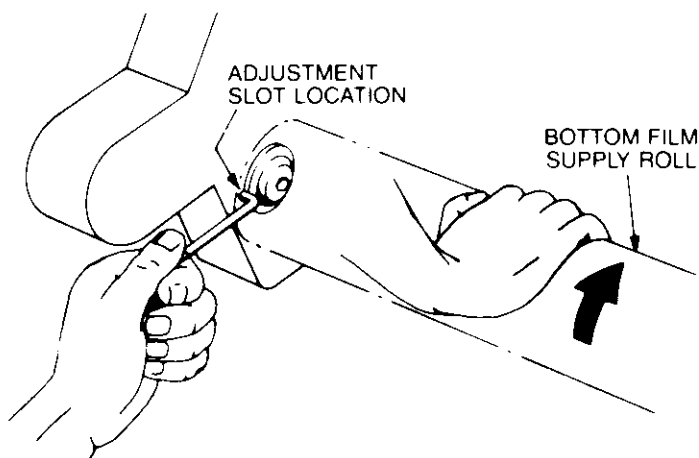

FIGURE 10
2. Insert the allen (hex-head) wrench provided with the laminator into adjustment hole as shown in figure 10.
3. Rotate film roll until wrench engages internal brake mechanism. While holding the allen wrench in place, rotate film roll in direction of arrow of figure 10 to increase tension.